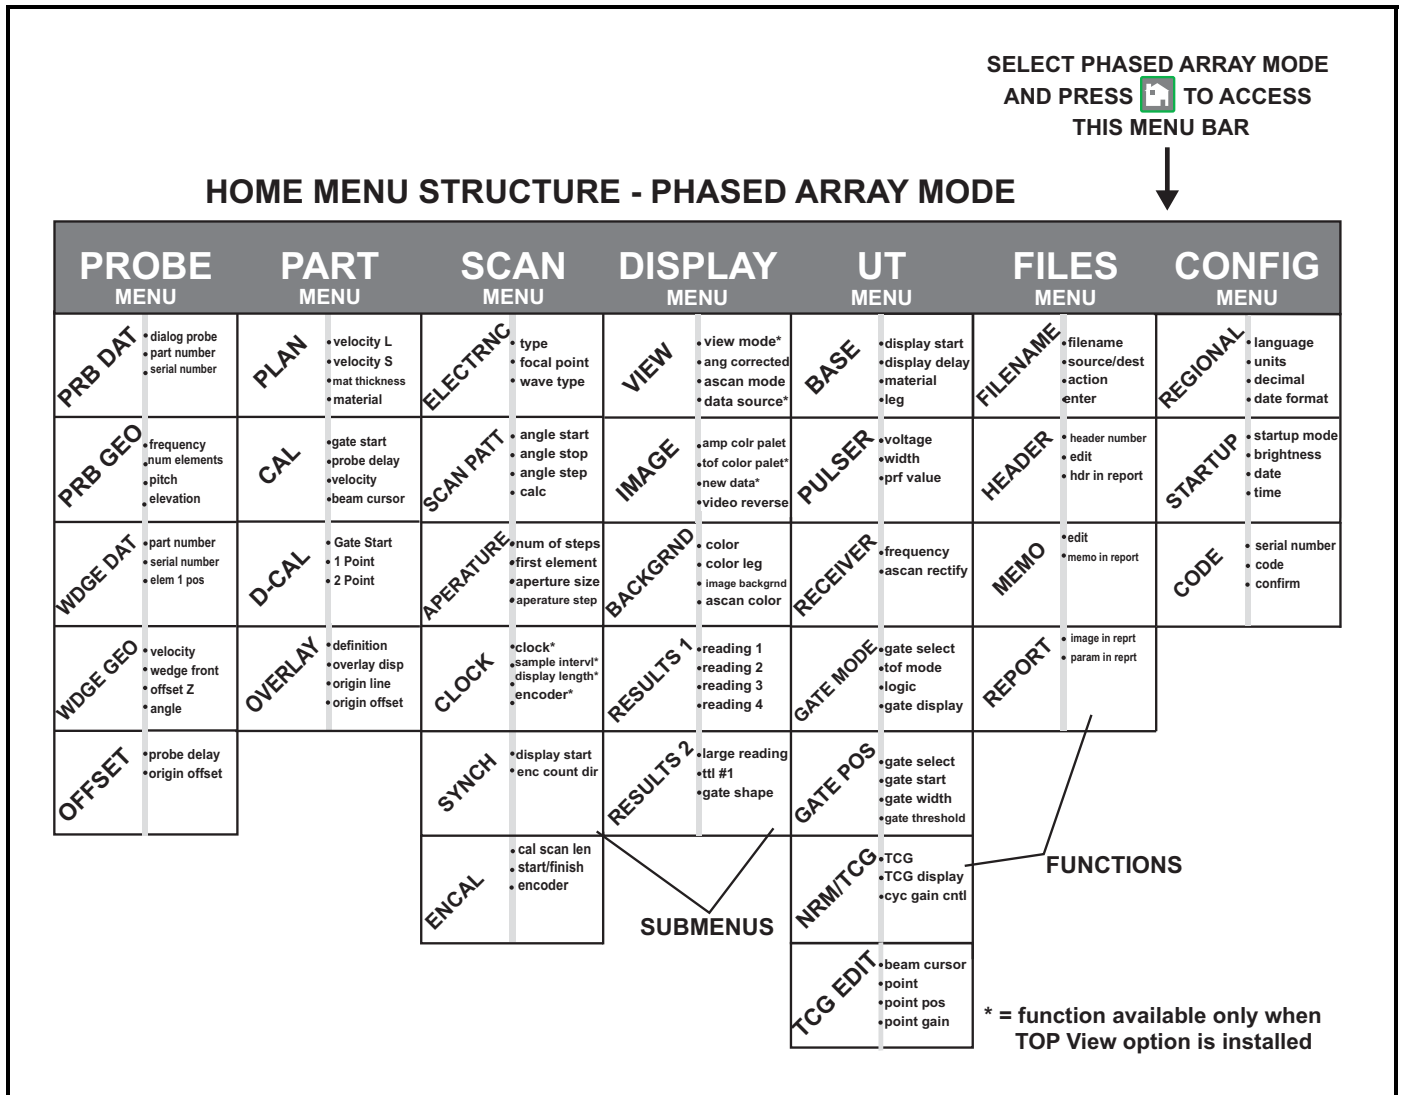

Figure 3: These menus, submenus, and functions are accessed through the Home Menu.
—*Home Key* immediately returns the instrument to the Home Menu shown in Figure 3 on page 5 (Phased Array) or Figure 3 on page 5 (Conventional). If held for 3 seconds, automatically performs a scan calculation. If pressed two times, all functions are de-selected and the Function Knob controls the beam cursor (Section 3.3).
Note: Figure 3 on page 5 shows the instrument's Home Menu structure. The information provided in the following two manual sections explains what each function does and shows how to access the function through the menu system. You'll also find operation-manual section references that tell you where to turn in this manual for more specific information on each function.
- Available menus are accessed via the phased array *Home Menu* (Figure 3 on page 5)